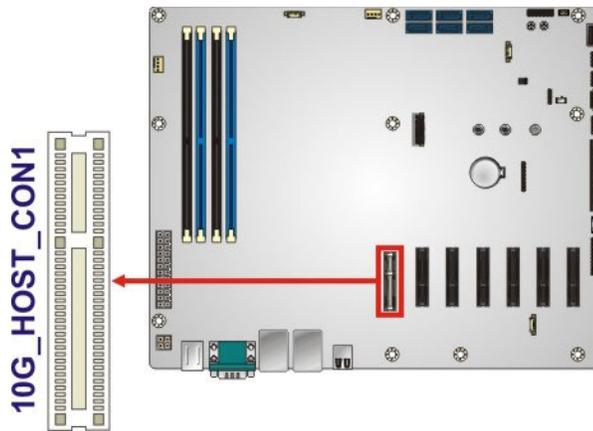

Figure 3-3: 10GbE LAN Card Slot Location
- CN Location:** See **Figure 3-3**